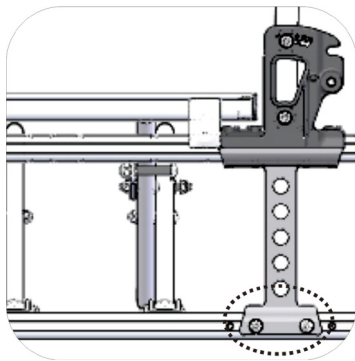

Figure 4.15
4.7.2 Use the supplied KARMA tool to loosen the screws on the rear wheel mount. (See Figure 4.15)